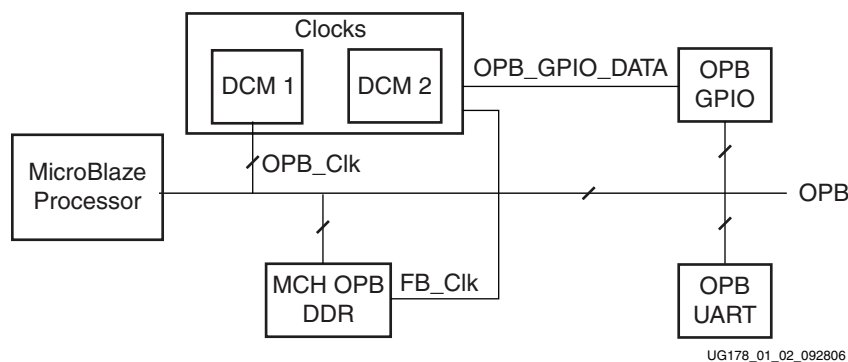

Figure 2: Reference System Block Diagram
This reference system is built on the ML403 development board. The system uses the MicroBlaze (MB) microprocessor and the MCH OPB DDR memory controller. Figure 2 shows a high level block diagram of the system. The address map for this reference system is shown in Table 1.